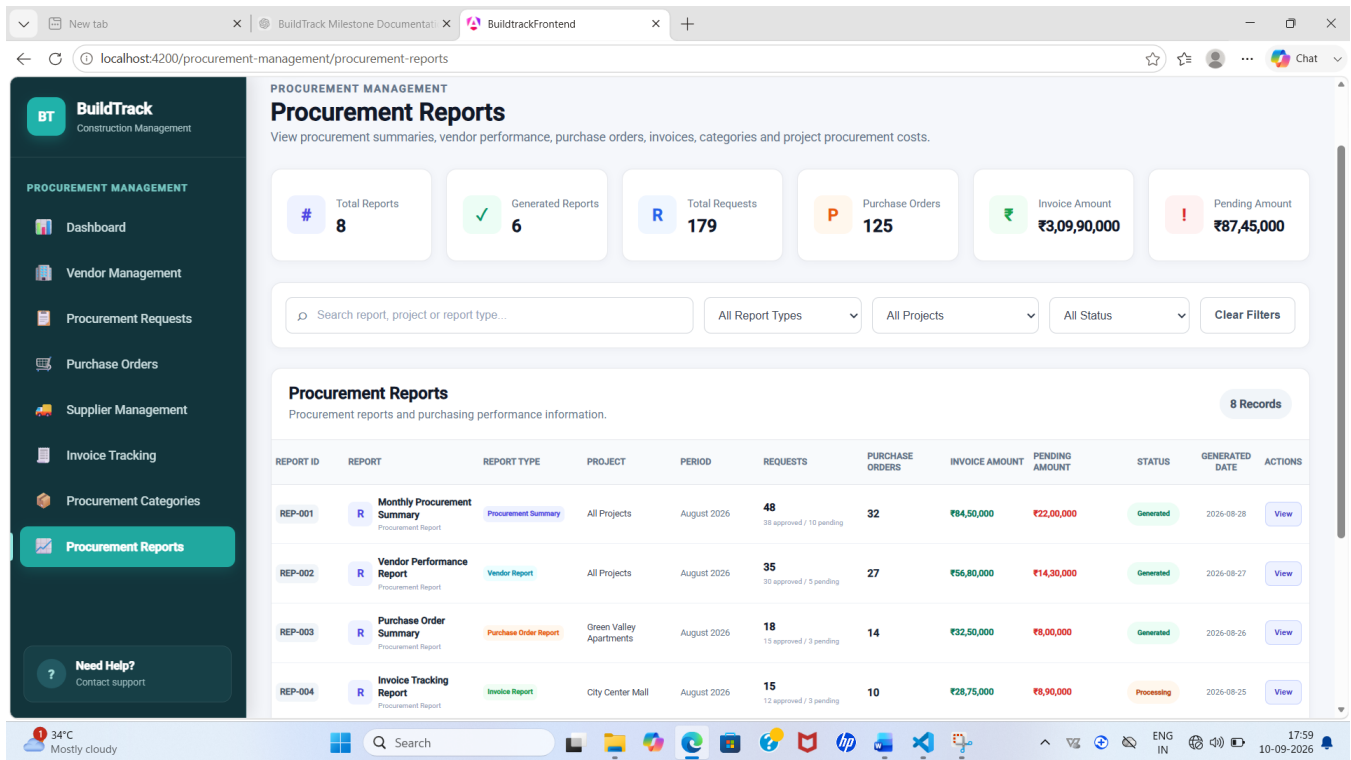

Figure 17: BuildTrack – Procurement Reports
- Figure 17 – Procurement Reports